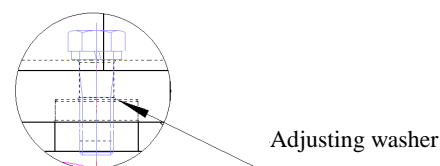

Fig. 8-2
(4) Adjust the error of position for the height of left and right lift cylinders by making use of the adjusting bolt on the upper end of right lift cylinder as indicated in Fig 8-2.